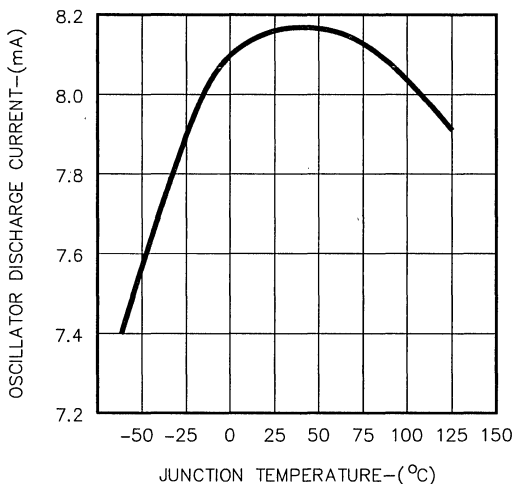

Figure 7. Oscillator Current vs. Temperature
comparator (A1) changes state, causing (S1) to switch to position (2) and (S2) to (Vo) position. This will allow the capacitor to discharge with a current equal to the difference between a constant current (ID) and current through charging resistor (IR), until the voltage drops down to ≈ 1.1V nominally and the comparator changes state again repeating the cycle. Oscillator charge time results in the output to be in a high state (on time) and discharge time sets it to a low state (off time). Since the oscillator period is the sum of the charge and discharge time, any variations in either of them will ultimately affect the stability of the output frequency and the maximum duty cycle. In fact, this variation is more pronounced when the maximum duty cycle has to be limited to less than 50%. This is due to the fact that for longer output off time, capacitor discharge current (ID - IR) must be decreased by increasing IR current. (NOTE: RT value should always be greater than 520Ω or the oscillator may stop functioning). Consequently, this increases the sensitivity of the frequency and duty cycle to any small variations of internal current source (ID), making this parameter more critical under those conditions. As a result, this parameter is trimmed to a nominal current value of 8.2±0.5mA at room temperature, and guaranteed to a maximum range of 7 to 9mA over the specified ambient temperature range. Figure 7 shows the variations of ID over temperature.